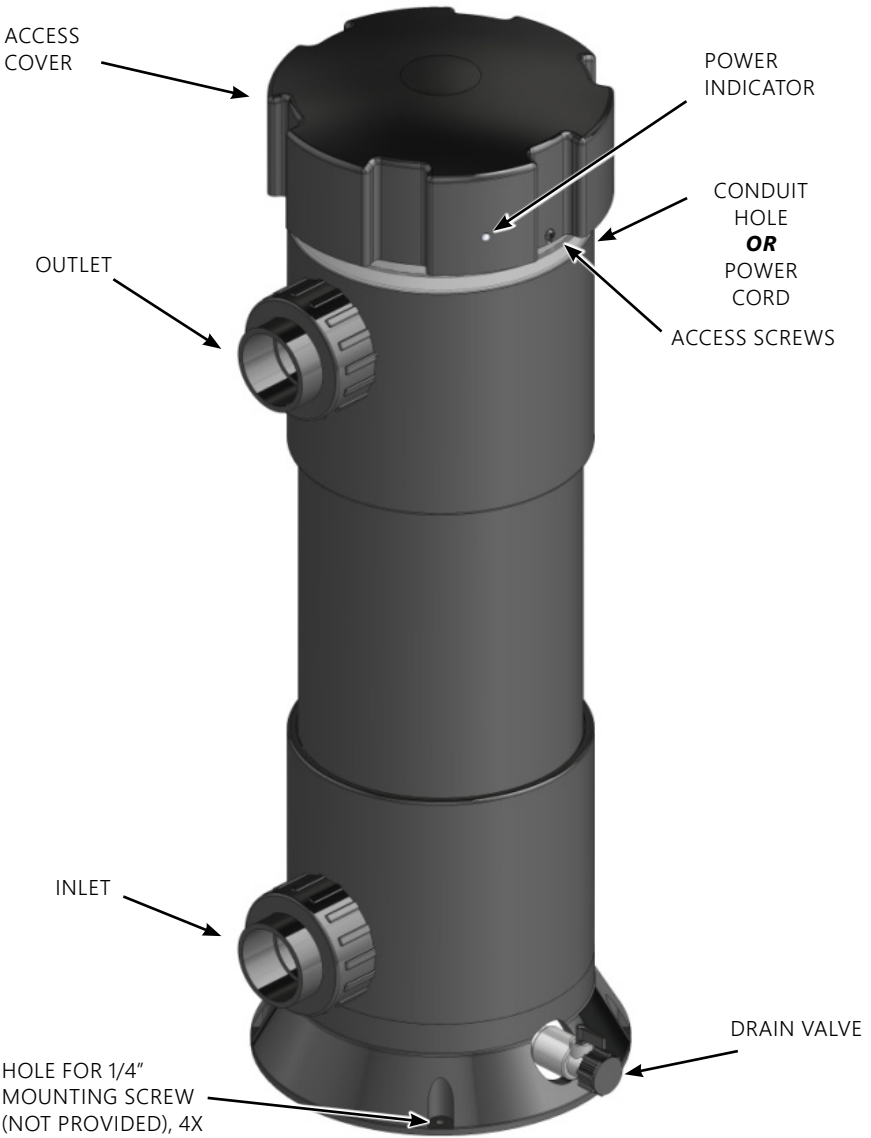

Figure 1: Overview
2. Locate the Drain Valve (Refer to **Figure 1**), remove the cap, and open valve to completely drain the water from the UV-C 50. If necessary, loosen the top union fitting (water outlet) to facilitate draining.